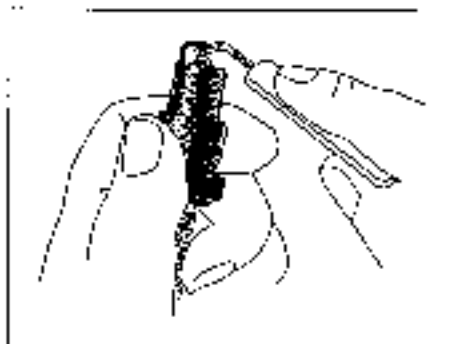

Figure 12-12:
2. Take your feeler gauge, select the proper wire, and run it between the electrodes (see Figure 12-12).